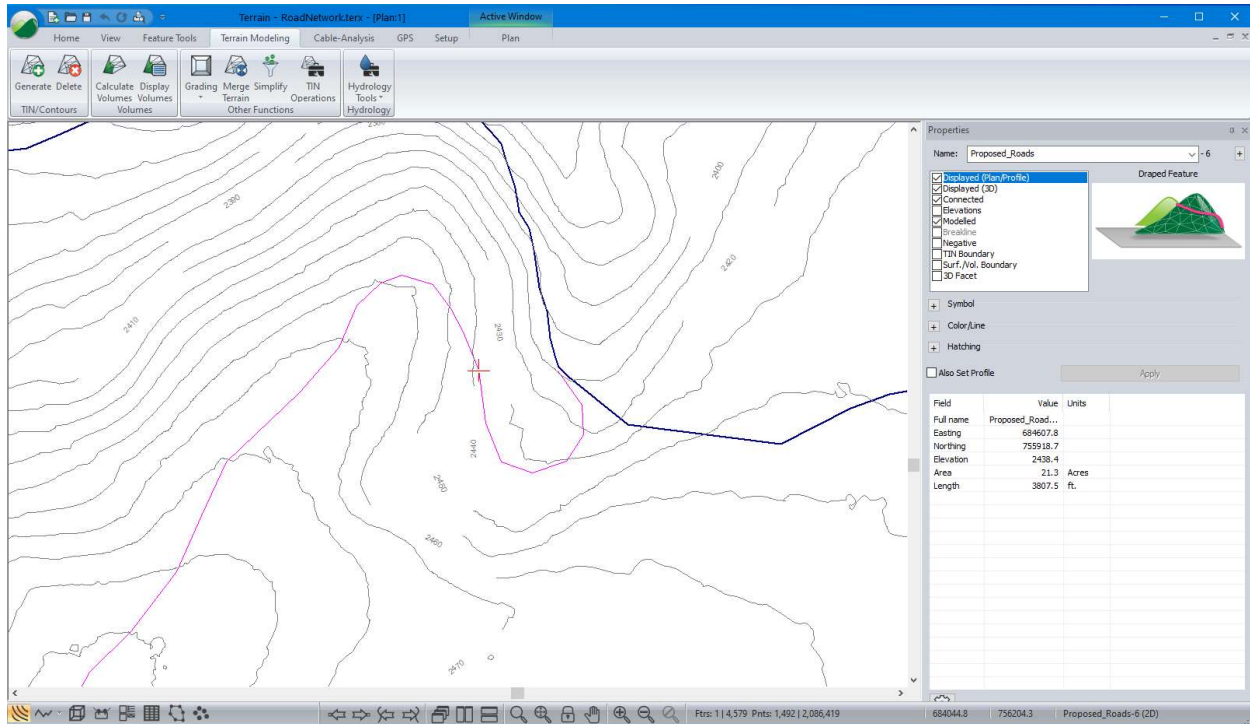

Figure 5-7: TIN From LiDAR
The generated TIN model should look like Figure 5-7 (we’ve zoomed  in a bit and set the line thickness heavier to make it more visible).
34. Using your mouse or by *Home | Select | By Name*, select the **Proposed_Roads-6** feature as in Figure 5-7 above.